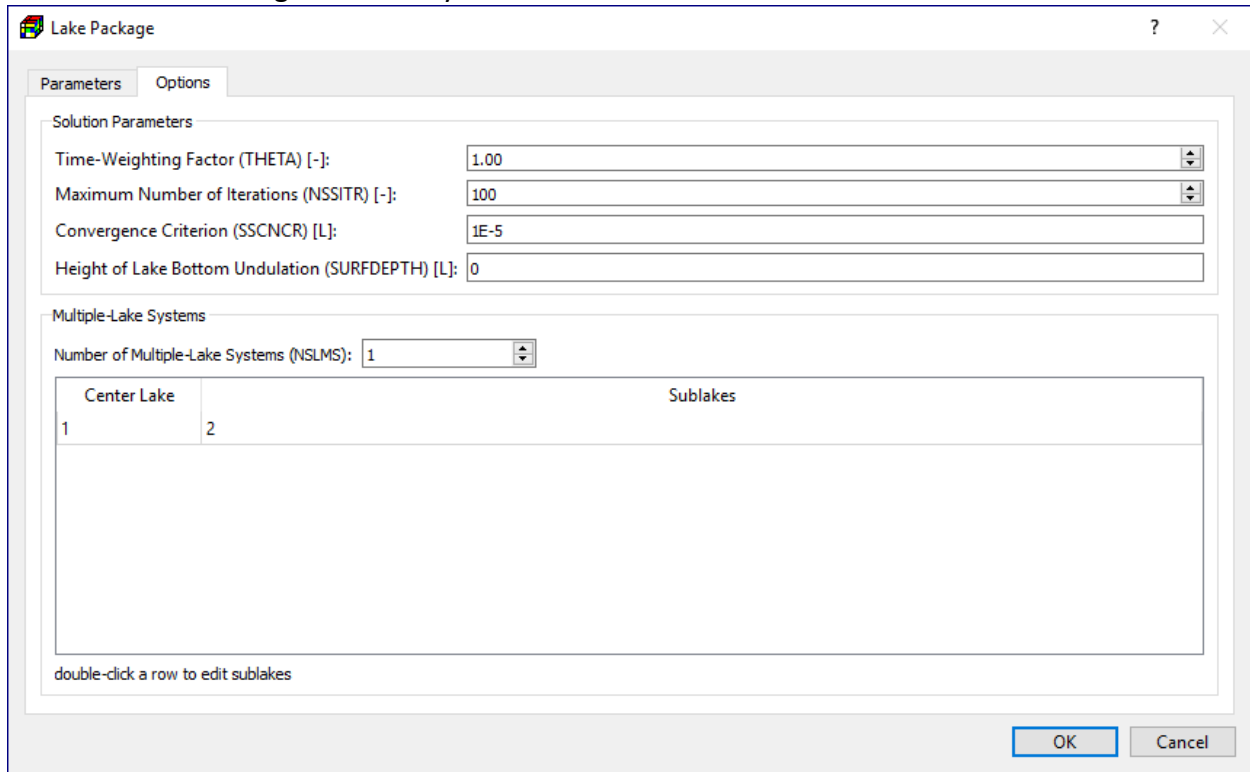
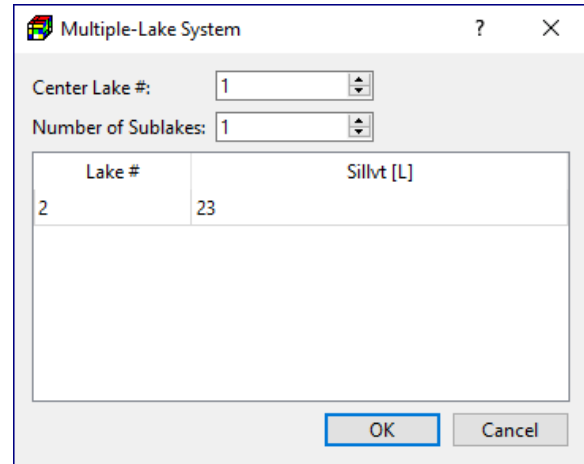

Figure 64. The Options tab of the Lake Package dialog box
Figure 65. The Multiple-Lake System dialog box
- **Options Tab** (Figure 64)
- **Table:** Each row of the table in Figure 64 represents a multiple-lake system. The Center Lake column lists the lake identification number of the center lake of the system; the Sublakes column lists the lake identification numbers of sublakes of the system. Double-click a row to edit the multiple-lake system in the Multiple-Lake System dialog box (Figure 65).